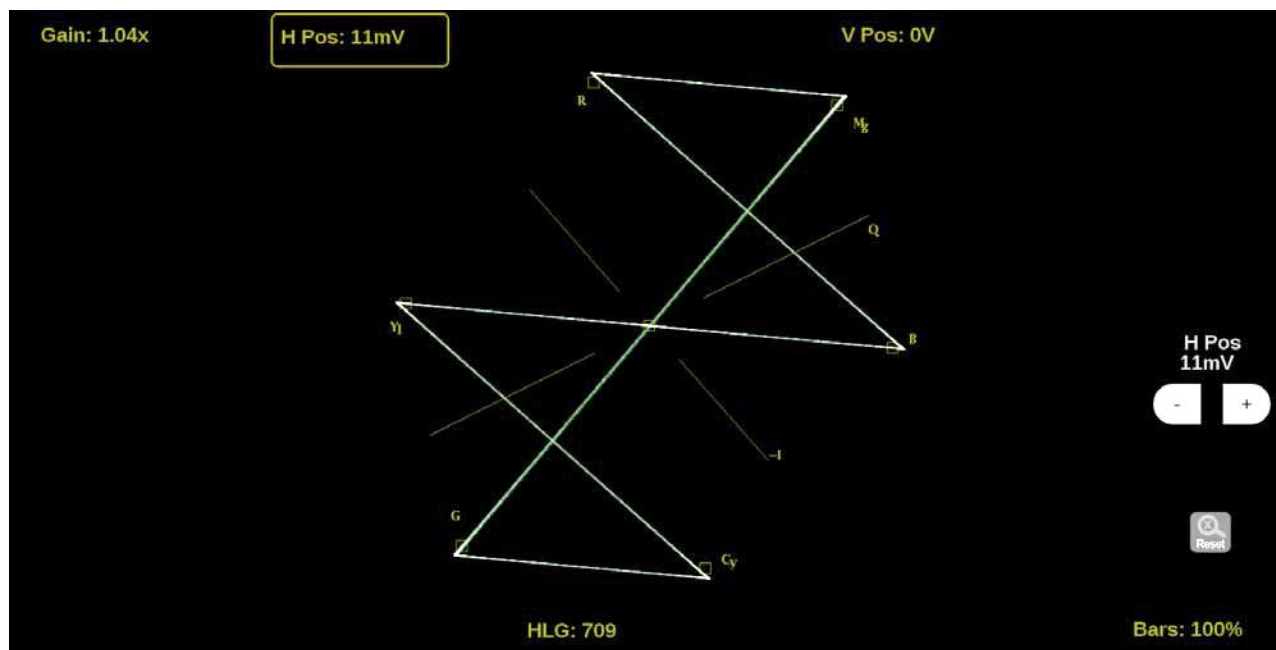

Figure 113: Vector on-screen tools – horizontal position
1. Select the **H Pos** button to allow adjustment of the horizontal trace. (See Figure 113.)